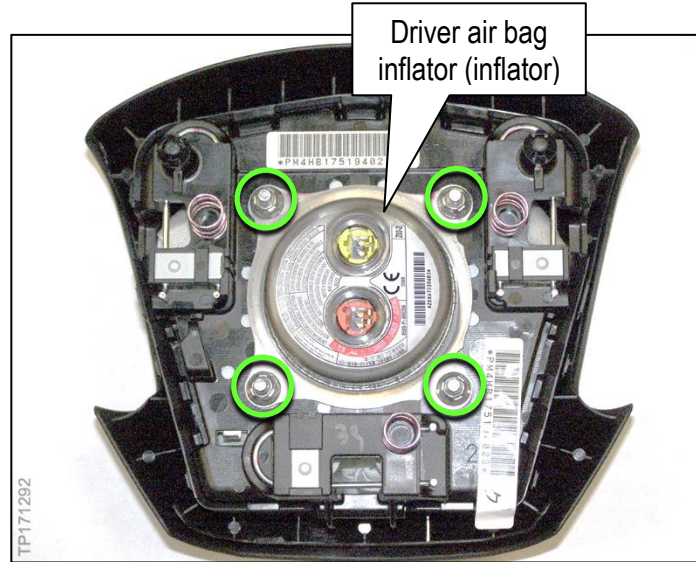

Figure 7
8. Remove the four (4) driver air bag inflator (inflator) nuts shown in Figure 7.